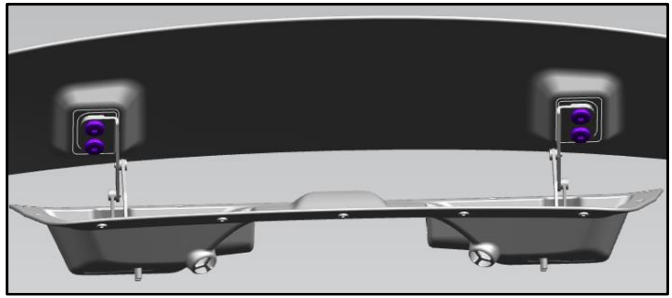

Figure 10
8. Remove the screws that attach the spoiler blade to the spoiler mechanism. (Refer to Figure 10.)